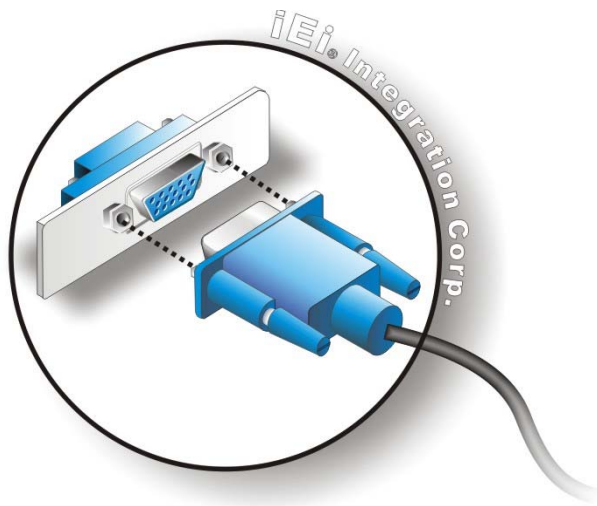

Figure 3-46: VGA Connector
- Step 3:** Insert the VGA connector. Once the connectors are properly aligned with the insert the male connector from the VGA screen into the female connector on the PPC-37xxA-N26. See **Figure 3-46**